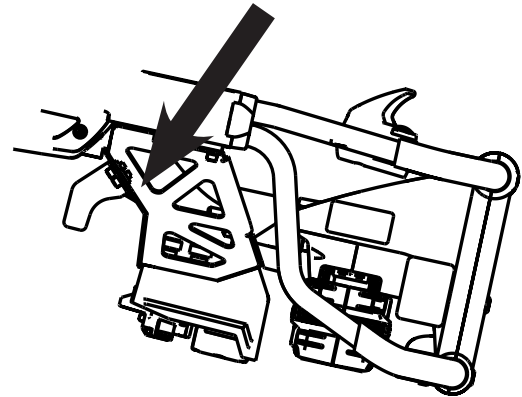

Figure 58
- For Power-LOAD compatible cots, you must lengthen and attach the straps to the foot end fastener as indicated in Figure 58.